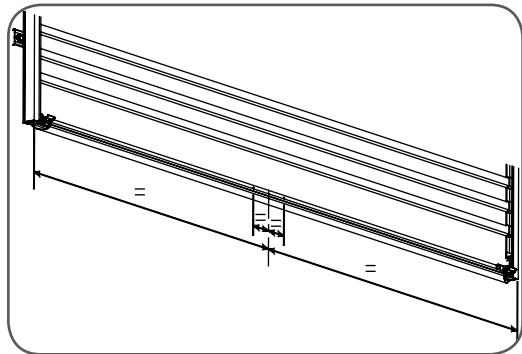

Fig.05
- a. Locate the centre of the door at the bottom rail (Fig.05).